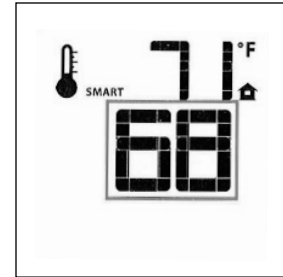

Figure 77. Smart Set Temp.
- To adjust the temperature, press the Up or Down Arrow Keys until the desired Set Temperature is displayed. Fig. 77.